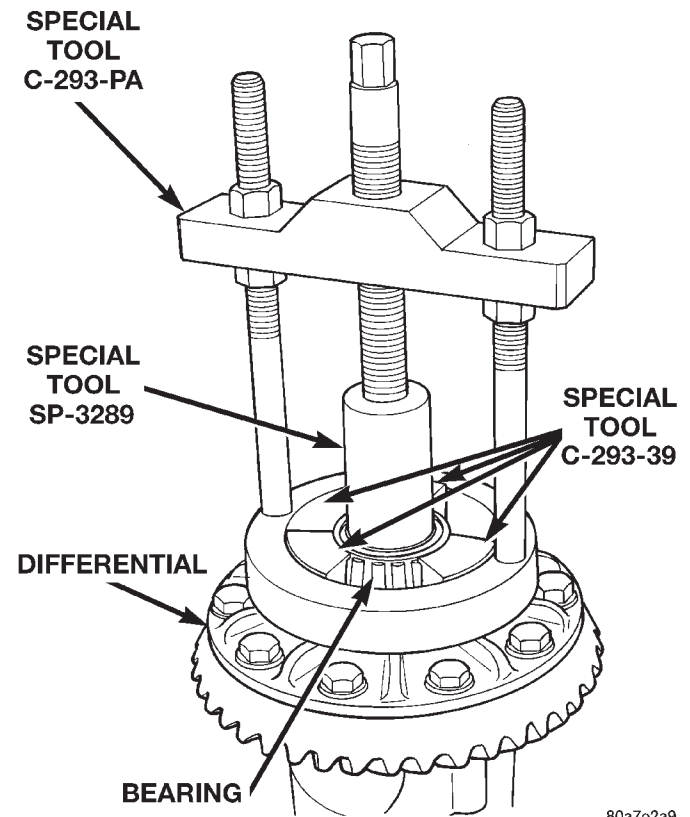

Fig. 31 Differential Bearing Removal
- (1) Remove differential case from axle housing.
- (2) Remove the bearings from the differential case with Puller/Press C-293-PA, C-293-39 Adapter Blocks, and Plug SP-3289 (Fig. 31).